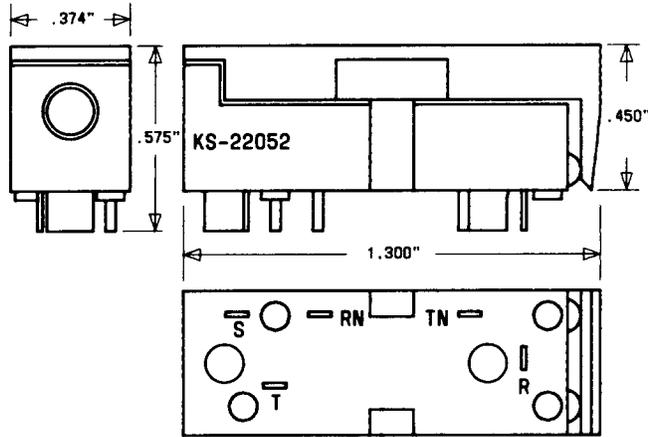

Fig. 10—KS-22052, L1, Jack
- (a) **KS-22052, L1:** The KS-22052, L1, jack (Fig. 10) contains tip, ring, and sleeve springs plus break-contacts on the tip and ring springs.